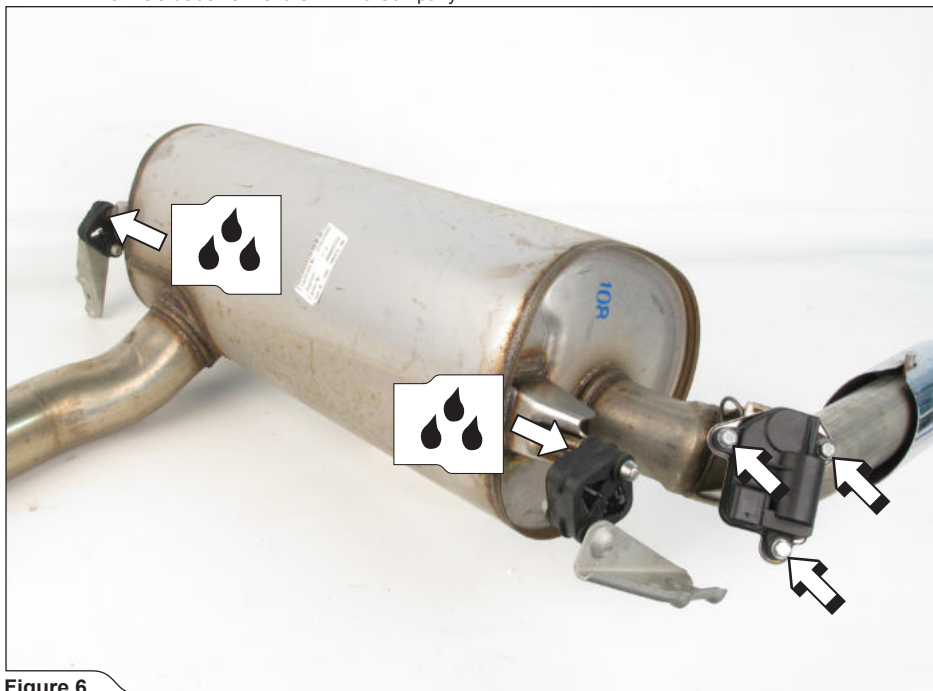

Figure 6
6. Carefully remove the rubber brackets and exhaust valve servo off the muffler (**Figure 6**).